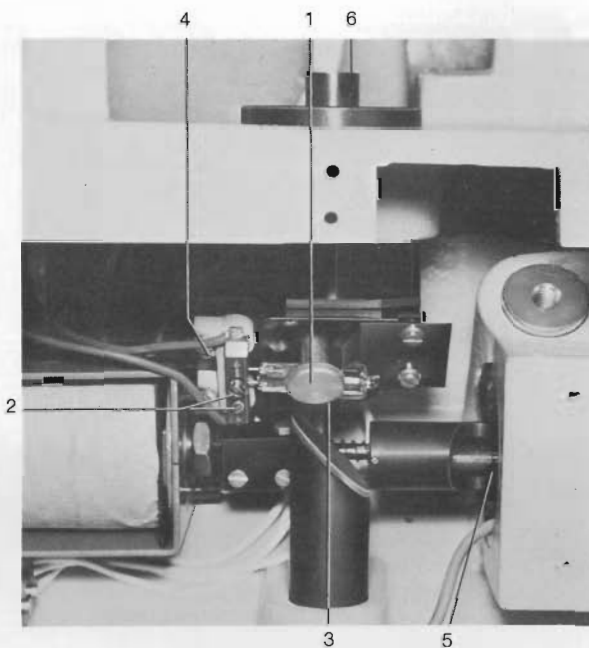

Fig. 12-1 Lamp Insert in Lamp Housing
a) Lamp insert in lamp housing (Fig. 12-1)
- Release the SCANNING LIGHT SOURCE ON push-button (101).
- Unscrew the knurled-head screw (Fig. 12-1/1) which retains the plate on the holder.
- Loosen the screws (Fig. 12-1/2) on the clamps of the lamp socket and withdraw the lamp.
- Fix the new halogen lamp on the plate. The bulb must flush with the aperture of the guiding plate. The longitudinal axis of the coil and the deflection mirror holder (Fig. 12-1/3) must flush.
- Slightly tighten the clamping screws (Fig. 12-1/2).
- Fix the plate with the knurled-head screw (Fig. 12-1/1) on the holder in the position determined by the cylindrical pin (Fig. 12-1/4).
- Press the + "transparency scanning" pushbutton (100) and the SCANNING LIGHT SOURCE ON push-button (101). The lamp coil is projected via the optical system of the transparency illumination arm on its diaphragm (Fig. 12-1/5) and must completely illuminate the aperture. Otherwise adjust as follows:
- In vertical direction, by turning the adjusting axle (Fig. 12-1/6),
- in horizontal direction, by turning the plate around the cylindrical pin (Fig. 12-1/4), after loosening the knurled-head screw (Fig. 12-1/1).